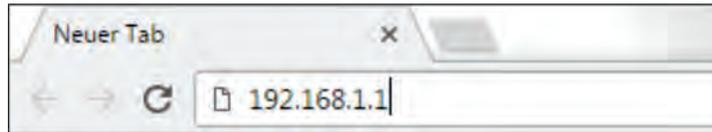
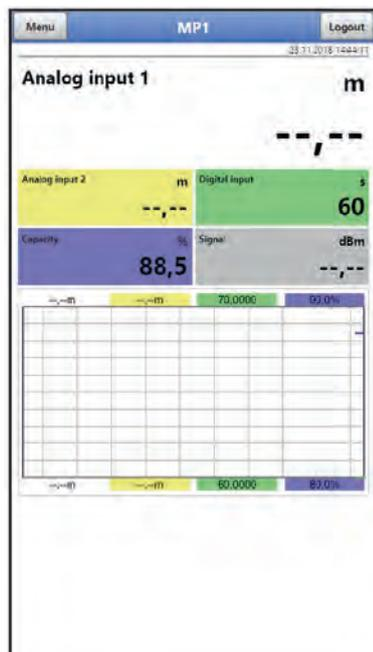

Fig. 30-23 Address field
Fig. 30-24 Indication of NFM display in the browser
6. Enter the IP address “192.168.1.1” in the address field (Fig. 30-23) and open. After successful connection the display of the NivuLevel Mobile (Fig. 30-24) is shown.